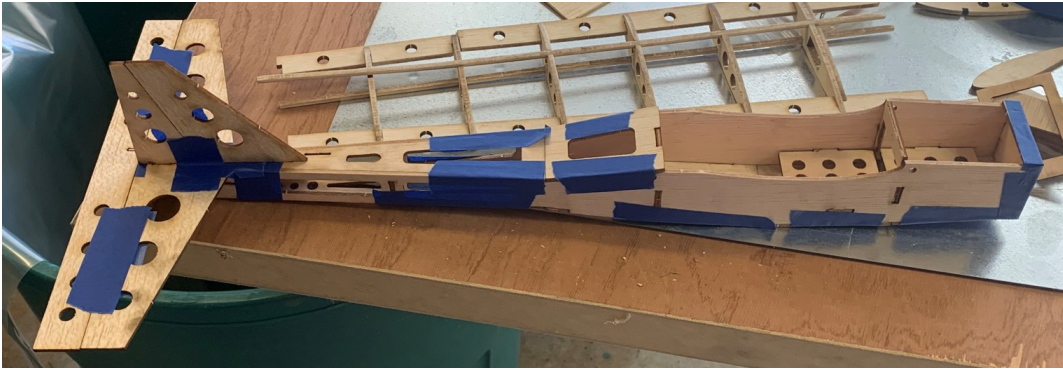

Figure 3 - Dry Fit Fuselage
- 6) Dry Fit all the parts together. Use painters tape to hold it together. See Figure 3 and 4.